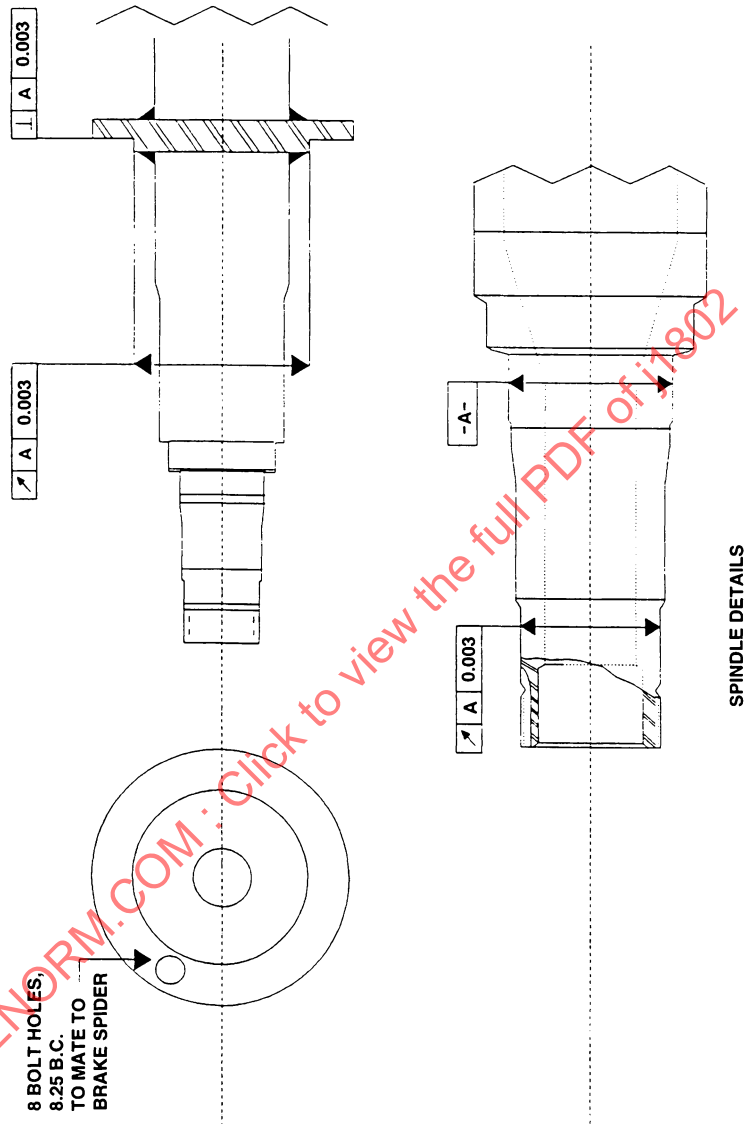

FIGURE A1—BRAKE ASSEMBLY MOUNTING/DYNAMOMETER STUB AXLE FIXTURE
A.1 Brake Assembly Mounting/Dynamometer Stub Axle Fixture—See Figure A1.